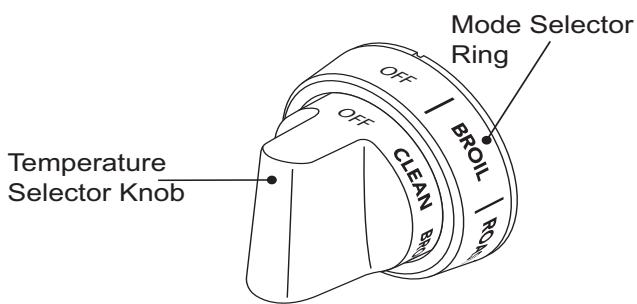

Figure 32: Mode Selector Ring & Temperature Knob
2. Set Mode Selector Ring (*Figure 32*) to Bake or Convection Bake, or Roast.